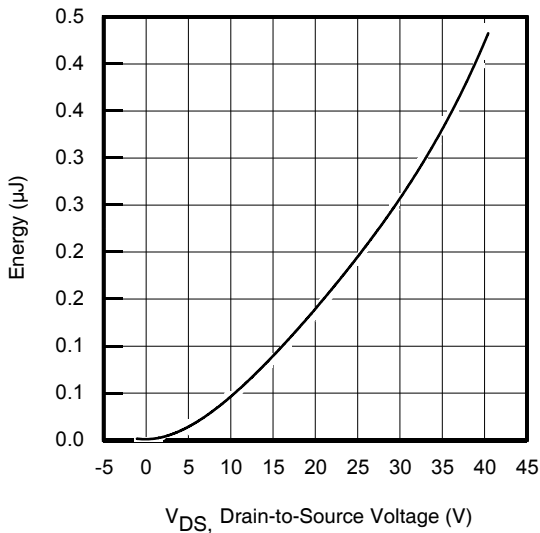

Fig. 11 Typical Coss Stored Energy
- ① Calculated continuous current based on maximum allowable junction temperature. Bond wire current limit is 100A by source bonding technology. Note that current limitations arising from heating of the device leads may occur with some lead mounting arrangements. (Refer to AN-1140)
- ② Repetitive rating; pulse width limited by max. junction temperature. (See fig. 11)
- ③ Limited by T_{Jmax}, starting T_J = 25°C, L = 0.039mH, R_G = 50Ω, I_{AS} = 76A, V_{GS} = 10V. Part not recommended for use above this value.
- ④ I_{SD} ≤ 76A, di/dt ≤ 1255A/μs, V_{DD} ≤ V_{(BR)DSS}, T_J ≤ 175°C.
- ⑤ Pulse width ≤ 400μs; duty cycle ≤ 2%.
- ⑥ C_{oss,eff.} (TR) is a fixed capacitance that gives the same charging time as C_{oss} while V_{DS} is rising from 0 to 80% V_{DSS}.
- ⑦ C_{oss,eff.} (ER) is a fixed capacitance that gives the same energy as C_{oss} while V_{DS} is rising from 0 to 80% V_{DSS}.
- ⑧ When mounted on 1" square PCB (FR-4 or G-10 Material). For recommended footprint and soldering techniques refer to application note #AN-994
- ⑨ R_θ is measured at T_J approximately 90°C.
- ⑩ Pulse drain current is limited by source bonding technology.